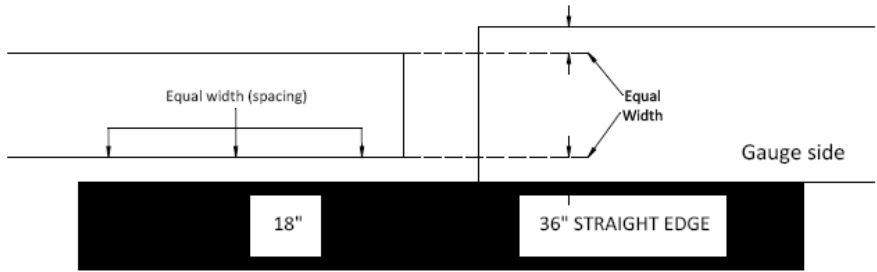

Fig. 29.6
- When a 36" straight edge is placed on the gauge face of the rail, at the interface between the weld and the low rail (Figure 29.6)
(See figure 29.6, 29.7 & 29.8)
- When a 36" straight edge is placed on the overflow on the gauge face of the rail, at the interface between the weld and the rail (Figure 29.6),
- The requirements of Section 29.3c are met. (Figure 29.6, 29.7 & 29.8)